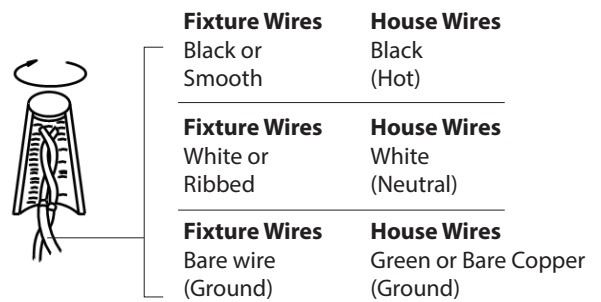

Fig.3 Switch
3. The lamp can switch between three color temperatures (3000K-3500K-4000K), which can be adjusted to your preference with the switch in the canopy (Fig. 3).